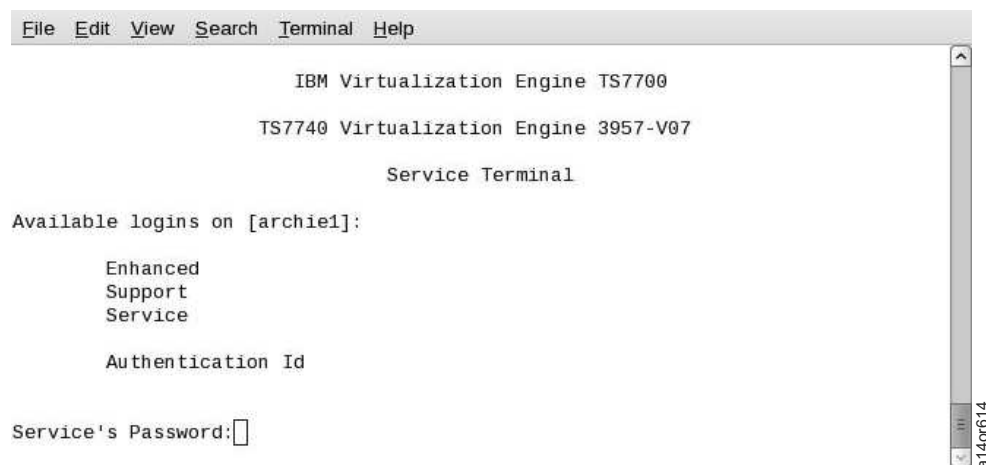

Figure 149. Connect to Attached Tape System – Connection Successful
4. When you have a successful connection, you see the screen shown in Figure 149.